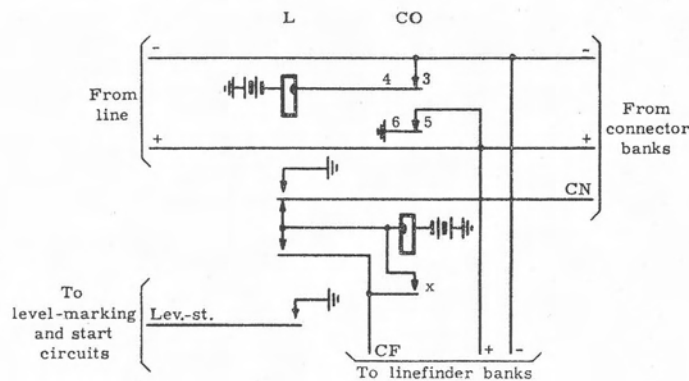

Figure 6. Usual 2-relay line circuit.
A two-relay line circuit is shown in figure 6. When the subscriber lifts his handset to make a call, ground through springs on the cut-off relay (CO), the + line, the subscriber's telephone, the - line, springs of relay CO, and the line relay (L) operates relay L. Relay L grounds connector control lead CN, busying the line to other calls, connects negative battery through relay CO to linefinder control lead CF to mark this line's contacts on the linefinder banks, and grounds lead LEV. ST. to mark the level on which the calling line will be found and to signal the group relays to start a linefinder. The linefinder, connecting to this line, grounds lead CF operating relay CO. Relay CO locks, and removes relay L from across the subscriber's line. Relay L releases, and removes ground from lead LEV. ST. When
4.1 Marking the calling line. Lifting the subscriber's handset operates his line relay (figure 6, ground through relay CO contacts 6-5, + line, subscriber's telephone, - line, and relay CO contacts 3-4). Relay L grounds connector lead CN to busy the line to other calls, connects the cut-off relay to linefinder bank contact CF to mark the line, and grounds the appropriate level-